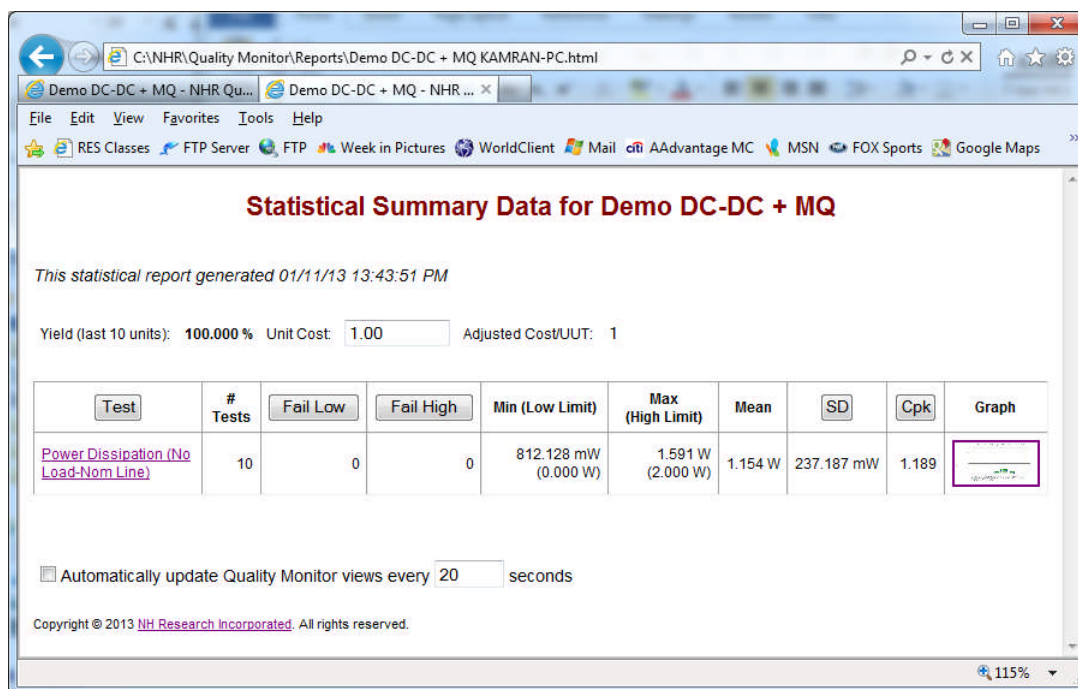
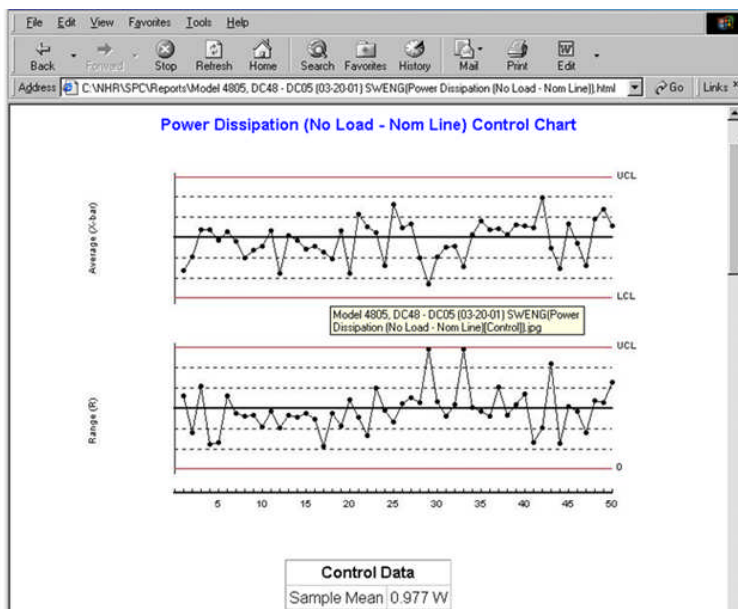

Figure 22 – The Test Program’s QM report page
Figure 24 – The Test Routine's QM Report page
Click the Quality Monitor button, Figure 21 – the Test Program's QM report page for that Test Program, Figure 22, opens.
The filename of the Test Program’s QM report page appears in the web-browser’s address dropdown, Figure 22, and is constructed from:
In the case of the Test Program’s QM report page shown in Figure 22, the report’s filename is:
Clicking any of the links in the Test column of the table shown in Figure 22, will open a QM report page for that measurement similar to that shown in Figure 24.
1. The name of the Test Program – in the example, Figure 24, it is: Model 4805, DC48 – DC05 (03-20-01)
2. The name of the Test System – in the example, Figure 24, it is: SWENG
3. The text label you entered in the Description field, Figure 7 – in the example, Figure 24, it is: Power Dissipation (No Load – Nom Line) inside parenthesis
In the case of the Measurement's QM report page shown in Figure 24, the report's filename is: Model 4805, DC48 - DC05 (03-20-01) SWENG(Power Dissipation (No Load - Nom Line)).html
The Control Chart graph shown in Figure 24 is a .jpg file; its name is constructed from:
In the case of the measurement's QM report page shown in Figure 24, the image's filename is:
In the case of the Measurement's QM report page shown in Figure 24, the image's filename is: